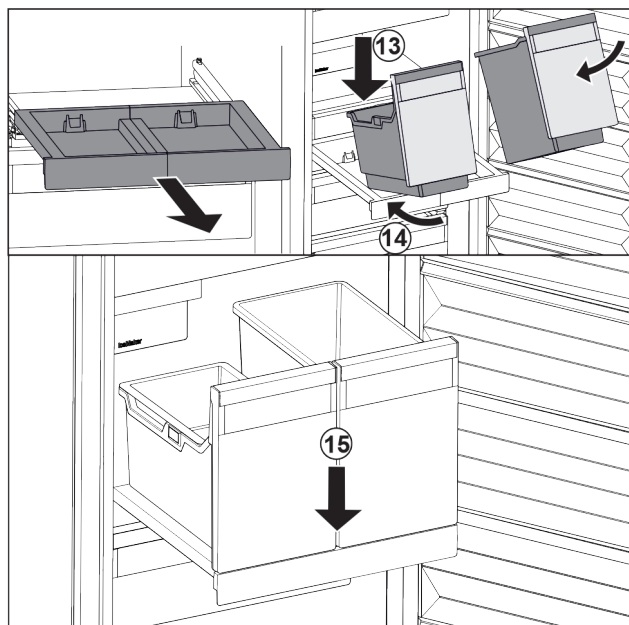

Fig. 129
- ▶ Place the container at an angle on the pull-out board. Fig. 129 (13)
- ▶ Slide in the container at an angle to the back. Fig. 129 (14)
- ▶ Place container at the front. Fig. 129 (15)